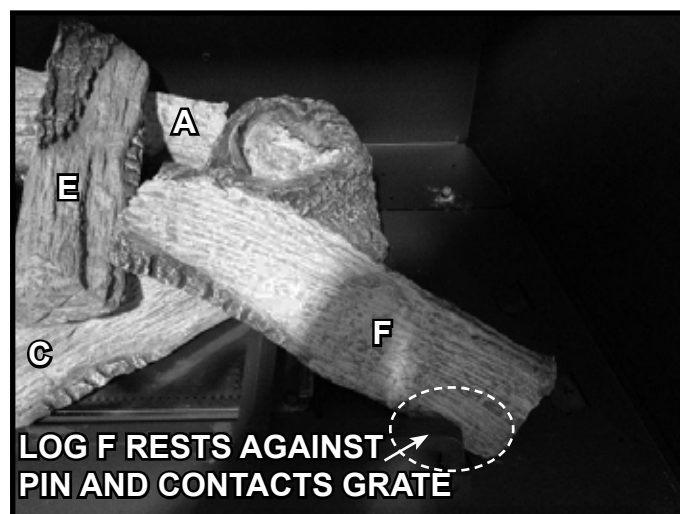

Figure 10. Log F Installed
6. **(LOG F):** Place Log F into appliance as shown in Figure 10. The burned out end of the log should rest on Log C and contact Log E. The unburned end of Log F should rest against log pin F, as shown in Figure 4, and contact the back of the lower grate tine as noted in Figure 10. Figure 3 shows the installed log set.